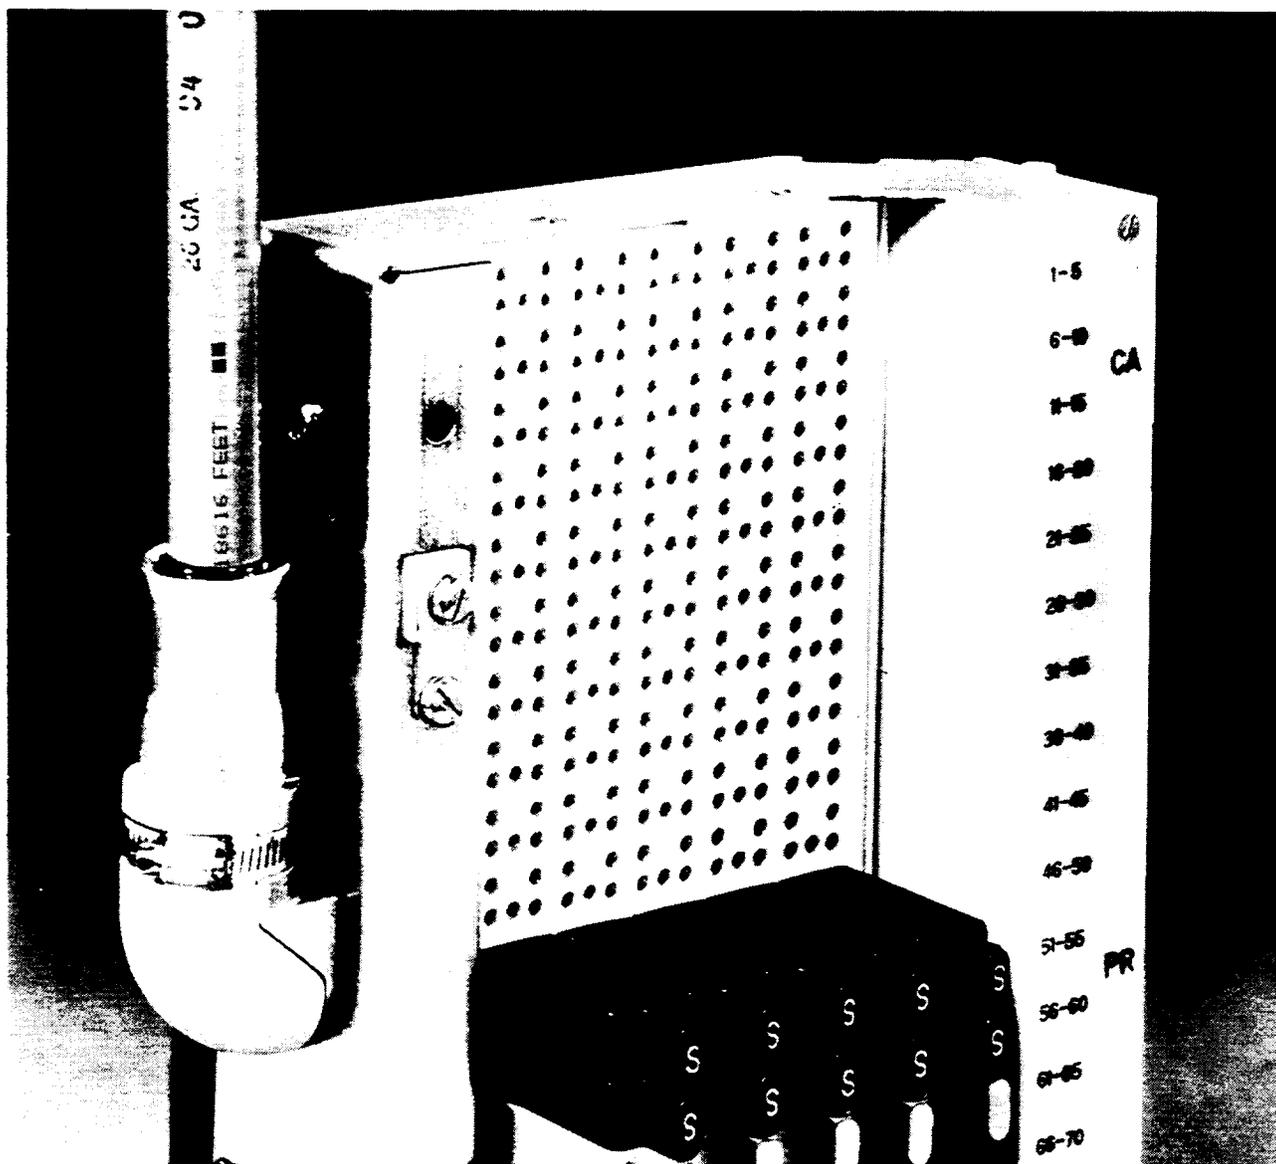

Figure 27. Left Side View 311L UL Listed Connector
7.03 The UL Listed 311L-series connectors are all equipped with 26-gauge (0.4 mm) stub cables to facilitate UL's fusing (fuse length) requirement. The stub cables are attached to the connector with a special swivel type metal coupling (Figure 27) which encases all the individual cable conductors. The loose wire conductors inside the connector (between the swivel coupling and the appropriate outside plant terminal of the protector panel) serves as the fuse length.